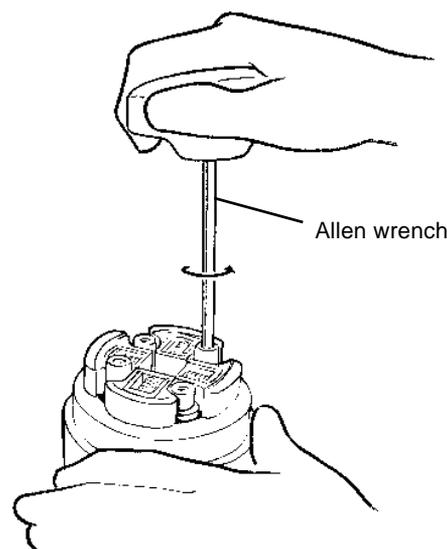

Figure 6.7 Removing the clutch body.
STEP 4. Remove the, springs and shoes from the clutch body (Figure 6.7).